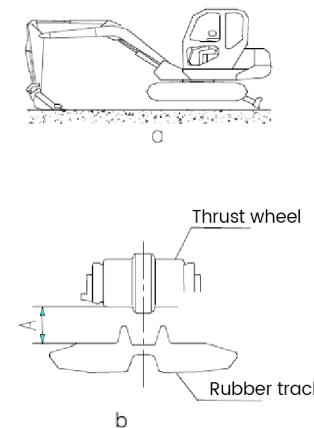

Fig. 1
- 3) Support the bucket on the ground and manipulate the boom cylinder to raise the front of the excavator (as a in Figure 1).
- 4) Correctly tension the track so that there is a 10-15 mm deflection between the middle thrust wheel and the track (as b in Figure 1).